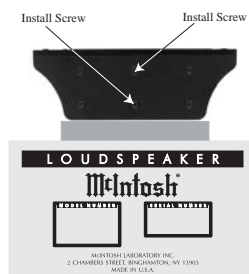

Figure 6
14. Install four screws (1/4" x 20 Flat Head) into the openings vacated by removal of the Wall Hanger Bracket. Refer to figure 6.